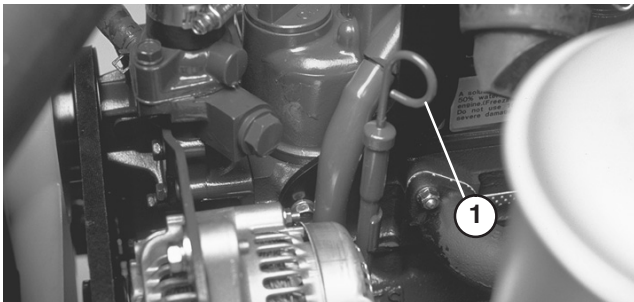

Figure 28
2. Remove dipstick (Fig. 28) and wipe it with a clean rag. Push dipstick down into dipstick tube and make sure it is seated fully. Pull dipstick out and check level of oil. If oil level is low, add enough oil to raise level to FULL mark on dipstick.